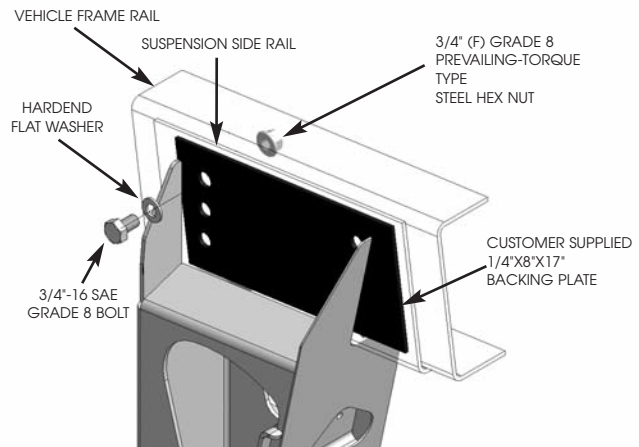

Figure 9
9. Drill one 13/16" diameter hole through the vehicle frame rail, auxiliary suspension frame bracket and the customer supplied backing plate. Inspect the suspension for location and fasten with one 3/4" - 16 SAE grade 8 flat washer and a 3/4" IFI grade G prevailing-torque type steel hex flange nut (See figure 9) and snug.